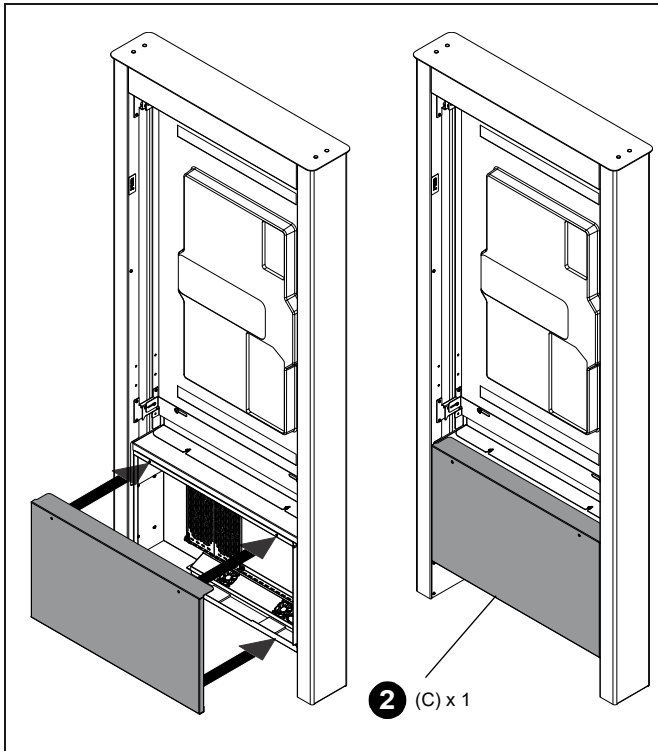

Figure 17
- Place the rear cover (C) over the back side of the kiosk frame. (See Figure 17)